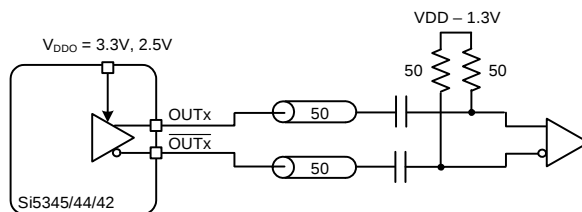

Figure 19. Supported Differential Output Terminations
The differential output drivers support both AC coupled and DC coupled terminations as shown in Figure 19.
- Differential Normal Swing Mode:** When an output driver is configured in normal swing mode, its output swing is selectable as one of 7 settings ranging from 200 mVpp_{se} to 800 mVpp_{se} in increments of 100 mV. The output impedance in the Normal Swing Mode is 100 Ω differential. Any of the terminations shown in Figure 19 are supported in this mode.
- Differential High Swing Mode:** When an output driver is configured in high swing mode, its output swing is configurable as one of 7 settings ranging from 400 mVpp_{se} to 1600 mVpp_{se} in increments of 200 mV. The output driver is in high impedance mode and supports standard 50 Ω . PCB traces. Any of the terminations shown in Figure 19 are supported in this mode.